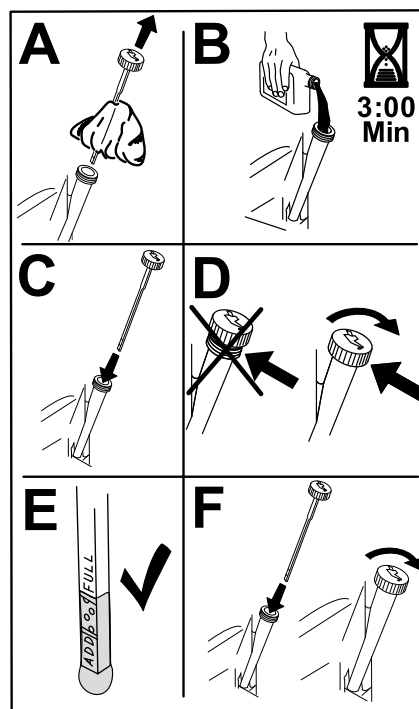

Figure 34
- Slowly pour approximately 80% of the specified oil into the filler tube and slowly add the additional oil to bring it to the Full mark (Figure 34).